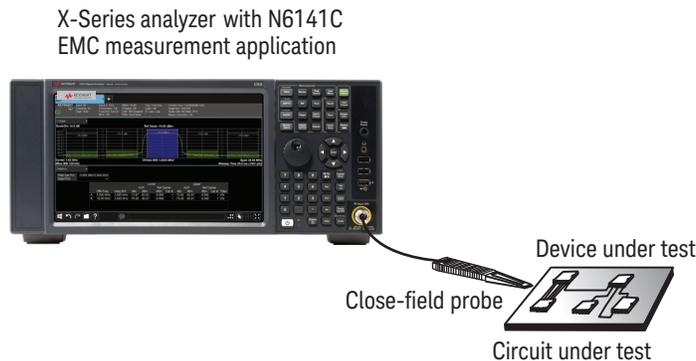

Figure 14. Diagnostics setup interconnection
7. If the signals are below the limit, then the DUT passes. If not, then some work needs to be done to improve emissions. Store the signals shown in Figure 14 for future reference when troubleshooting problems.